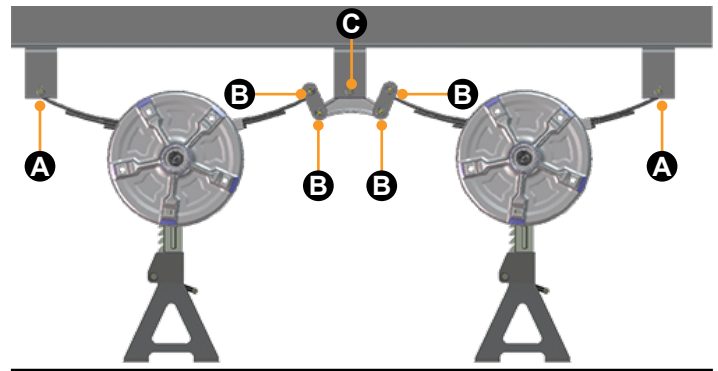

Fig.3
7. Using a floor jack, lift the axles slightly and place the additional properly-rated jack stands under the axles (Fig.3) so that the shackle bolts can be driven out with a hammer.